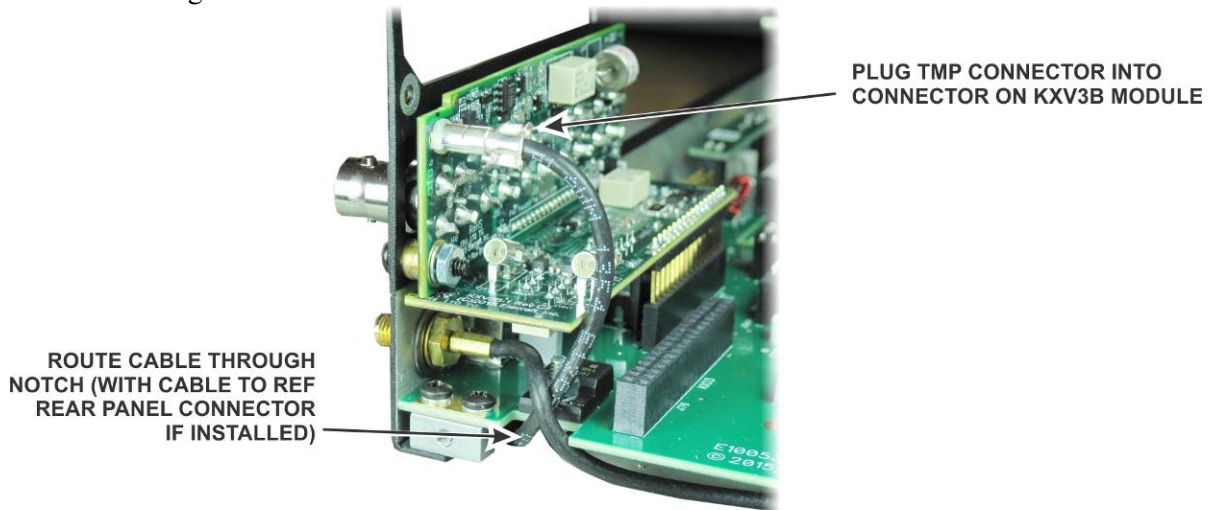

Figure 55. Connecting Coax Cable to KXV3B Module.
□ Plug the TMP coaxial connector into the KXV3B module and route the cable through the notch in the RF board as shown in Figure 55.
**⚠ Be sure the coaxial cable(s) shown in Figure 55 passes through the notch in the RF board and are not trapped between the edge of the board and the side panel.**